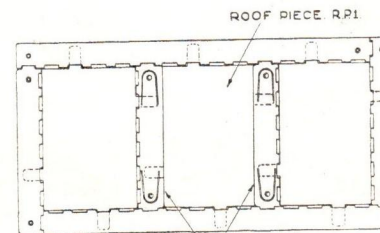

Figure 26
**FLAT ROOFS** are less complicated. They are usually built into the ceiling frames using roof pieces with the lugs bent flat, as in "Inglenook" (A.2 outfit) The Flats (A.4 outfit), etc., see illustrations. For two simple types of flat roof, see Figs. 26 and 27.